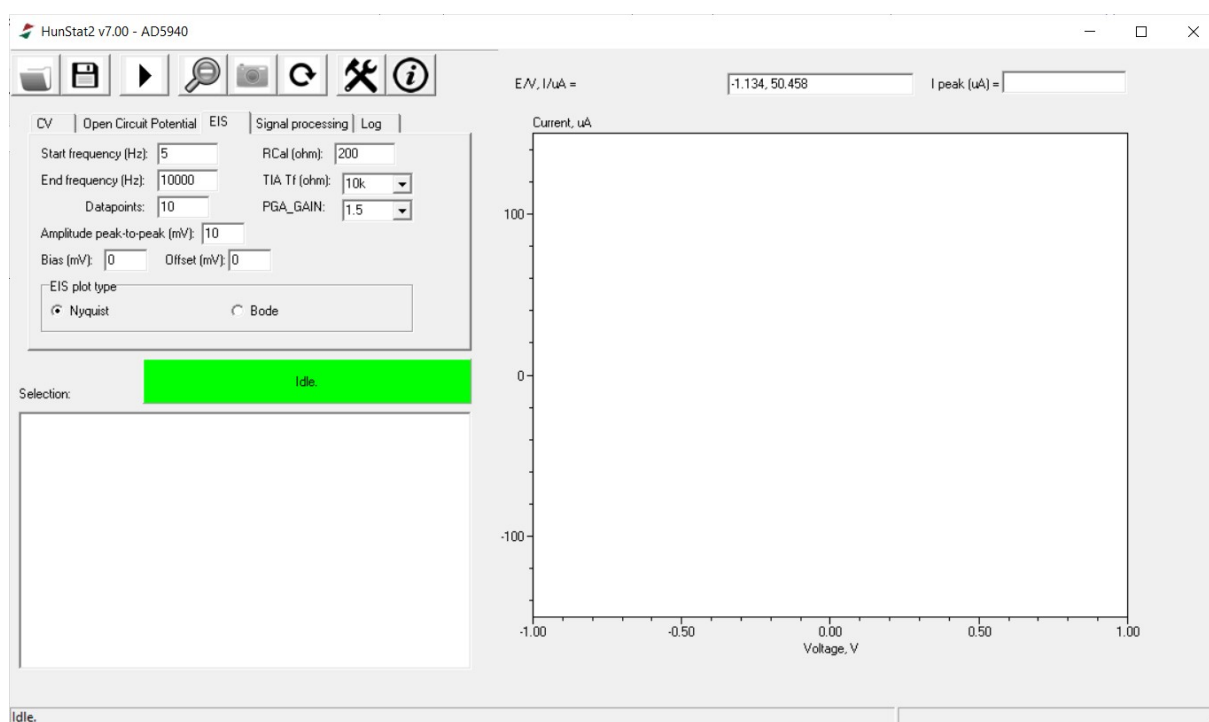

Figure S7 Main screen of the HunStat2.exe software after start.
The HunStat2 Graphical User Interface Software. The HunStat2 GUI software can be downloaded from the GitHub (HunStat2-v700 \(1\).exe) of [3] place the files into an empty folder on your computer. After connecting the potentiostat, and launching the GUI, the initial screen will appear (**Figure S7**). **Figure S8** shows an example screenshot after an EIS measurement. The icons shown in the top row, from left to right: **Open file, Save file, Start measurement, Clear zoom, Save plot (into a PNG file), Redraw current measurement, Settings, Information**. The software can handle three electroanalytical techniques: cyclic voltammetry (CV), open circuit potential (OCP), and electrochemical impedance spectroscopy (EIS). Parameters for these techniques can be adjusted in the **CV, Open Circuit Potential** and **EIS** tabs. Additionally, the **Signal processing** tab allows smoothing of the resulting voltammogram in two different ways (Savitzky-Golay or moving average smoothing). Communication between the GUI and the potentiostat can be monitored in the **Log** tab.